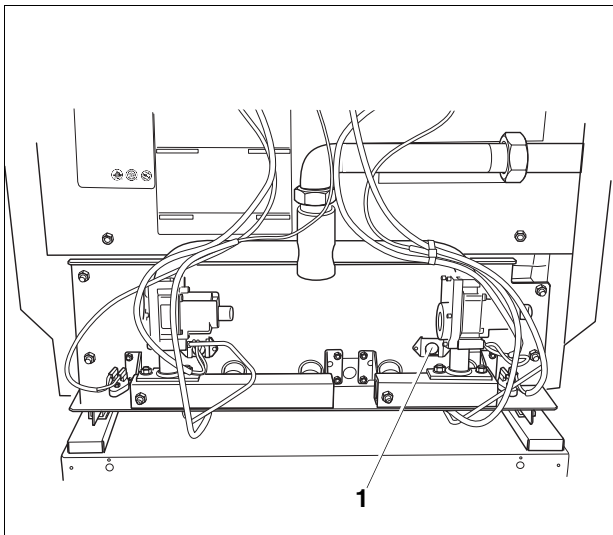
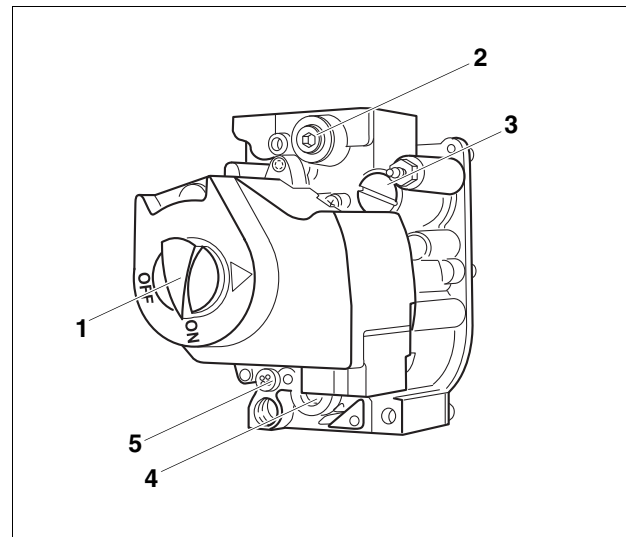

Fig. 8 Front view
Fig. 9 Gas valve
13. Check manifold pressure. The manifold pressure must be set in accordance with the values in → Tab. 3. To set the manifold pressure the cover (→ Fig. 9) on the gas valve must be removed. Turn the adjustment screw clockwise to increase the pressure and counterclockwise to reduce the pressure. This setting must be adjusted while the boiler is operating.
14. Record the set value in the commissioning protocol of the installation and maintenance instructions and screw the safety screw (→ Fig. 9, page 11) into the gas valve again.
15. Observe pilot flame through the sight glass (→ Fig. 8, page 10) in the burner housing.
The adjustment screw is behind the pilot burner pressure adjustment safety screw (→ Fig. 9, page 11).
18. Remove safety screw for pilot burner pressure setting (→ Fig. 9, page 11). Turn the inner adjustment screw clockwise to reduce the pilot flame and counterclockwise to enlarge the pilot flame.
19. After adjustment tighten the pilot burner pressure adjustment safety screw (→ Fig. 9, page 11) again.
20. Observe main burner flame through the sight glass (→ Fig. 8, page 10) in the burner housing. The flame must have a steady and fixed contour and generally has a bluish color. If the main burner flame meets the requirements, proceed with step 21. If the main burner flame is too weak or is yellow or goes out, turn the ON/OFF switch (→ Fig. 9, page 11) on the gas valve clockwise to OFF. Close the gas valve and disconnect the heating system from the power supply and contact the customer service technician or the gas company.